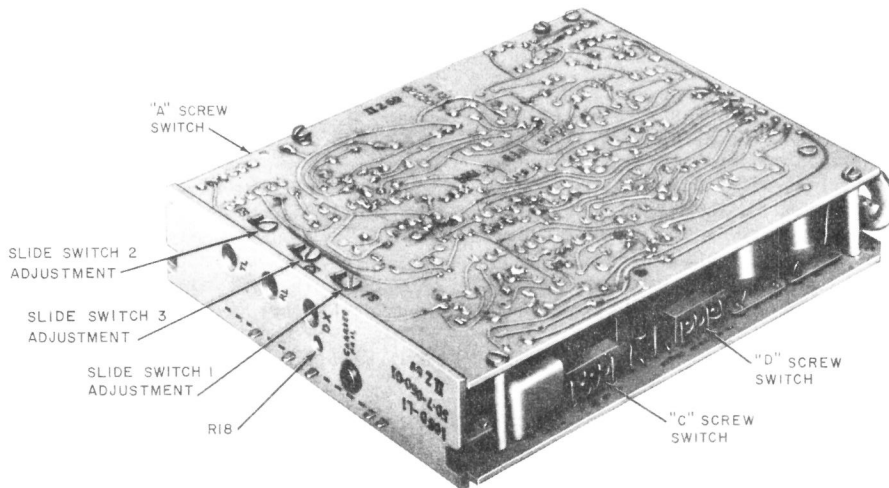

Fig. 1—Data Set 108D-Type
**2.01** Data sets 108D and E (Fig. 1 and 2, respectively) consist of two printed wiring circuit boards mounted together in piggyback fashion with a single connector. The data sets (AR-type circuit packs) are approximately 5-1/2 inches high, 7 inches deep, 1-1/8 inches wide, and weigh approximately 2 pounds. The data sets will operate in an ambient temperature range from 40°F to 120°F and in an ambient relative humidity range from 20 to 95 percent. The data sets plug into the 28A1 data mounting and require nominal power sources of  $+24 \pm 3$  volts and  $-24 \pm 3$  volts.